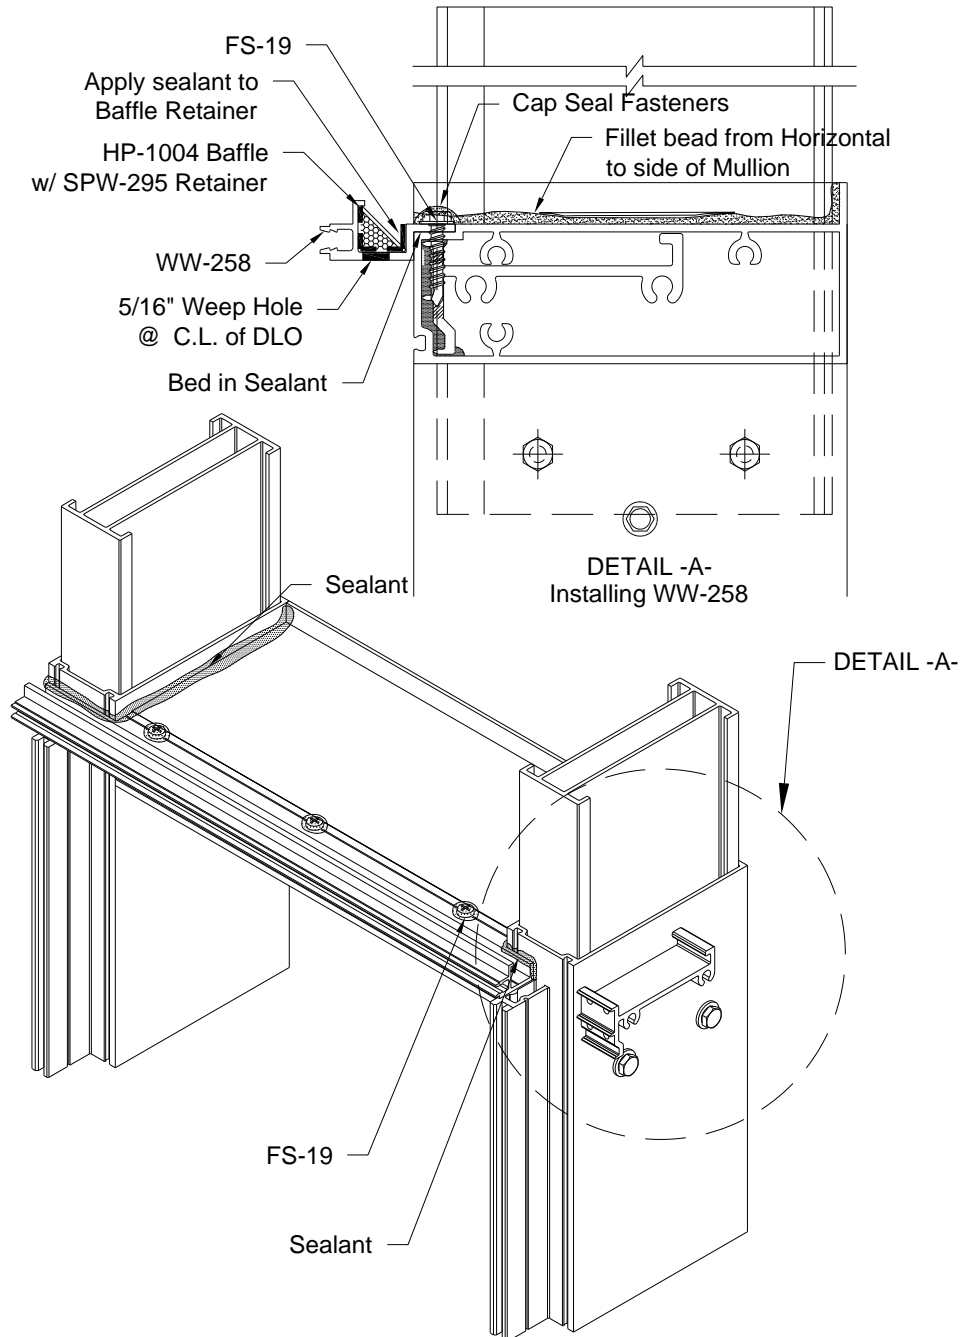

Figure 25: Horizontal Assembly
- 12.8 Install HP-1004 baffles, held in place using SPW-295 baffle retainer. Apply a small amount of sealant to back edge of SPW-295 to hold in place during shipment. Seal ends of horizontal to vertical mullions as shown in *Figure 25*. Assembly and sealing of gasket retainer should be performed as part of shop assembly of screw spline frames.